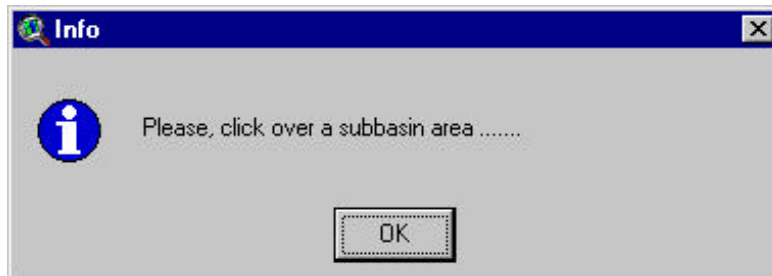

Figure 4.33
- i. If the mouse cursor was located outside the watershed when right clicked, a message box will notify the user (Figure 4.33).